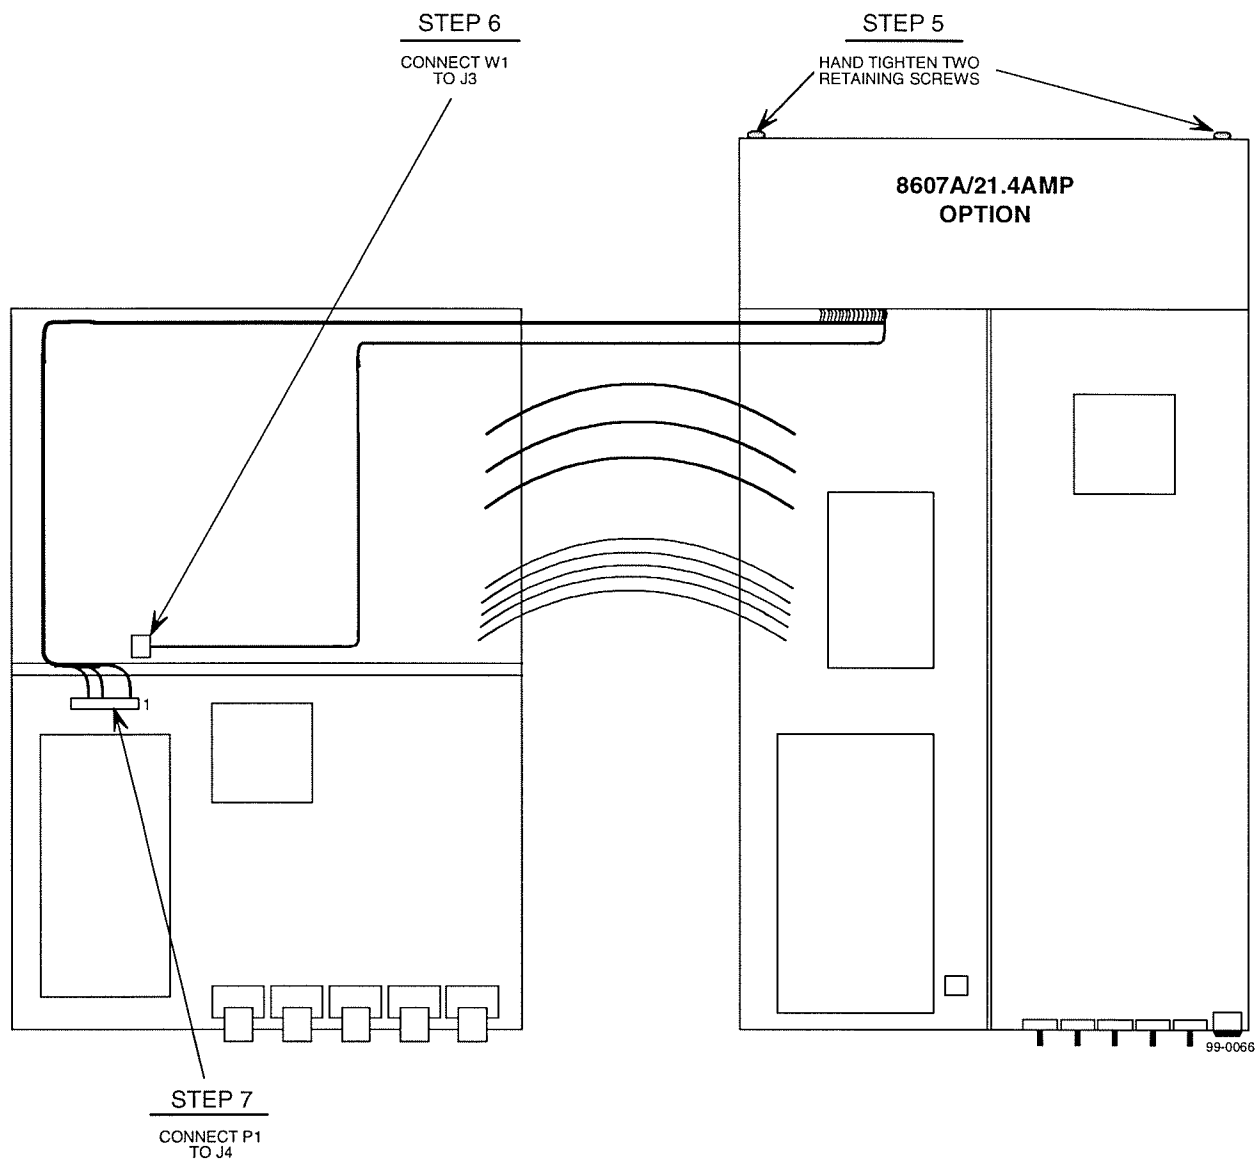

Figure D-3. Installing the Option and Connecting Internal Cables
5. Referring to **Figure D-3**, align the 8607A/21.4AMP Option with the rear top half of the Miniceptor and hand tighten the retaining screw of the option into the Miniceptor's chassis.